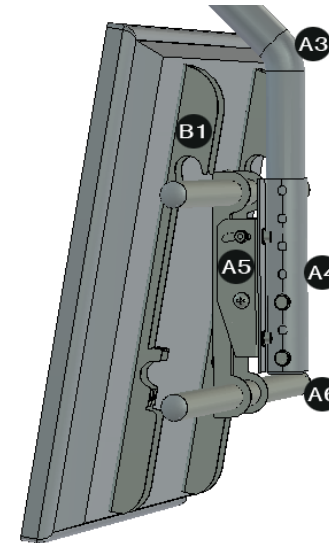

Figure 9: Hook on TV with Part-B1
6.5" adjusted are designed to make MCM can meet your TV size or to make a little high adjustment. Loose the 2 bolts which has been tightened in Part-A4(Figure 9). Move to the position you need and tighten the bolts again. We offer a variety of extension pipes to extend the length of Part-A3.